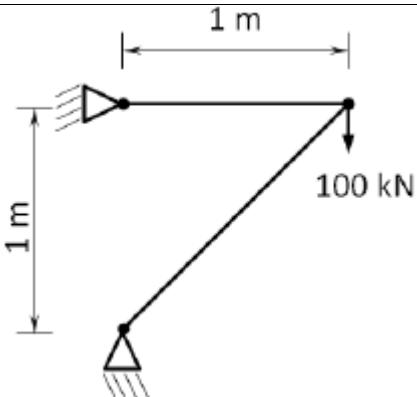

Fig. 4
b) For the two-bar truss shown in Fig. 4, construct the finite element model. Determine the nodal displacements and compute the element forceses.